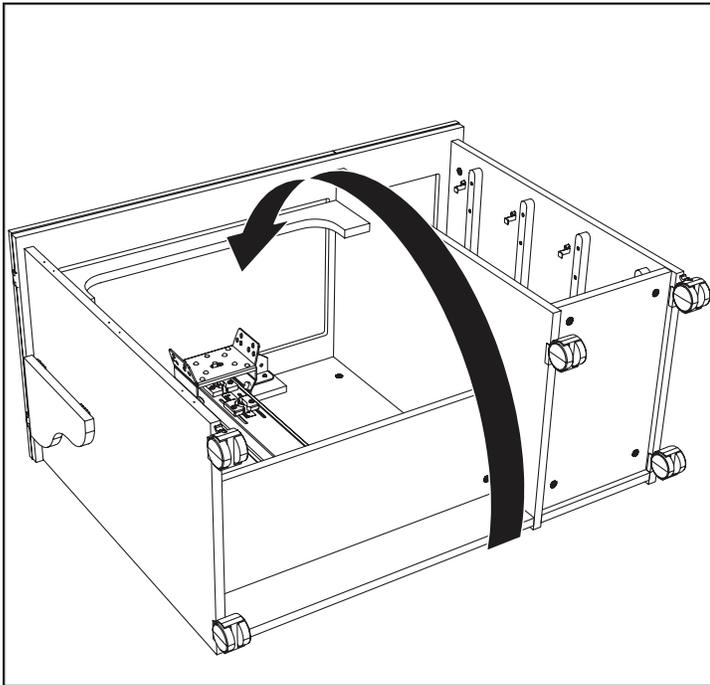

FIG. 13A
Step 13. Once Top Assembly (A, B, C) is on securely, with 2 people CAREFULLY flip the cabinet on its back, as shown in FIG. 13A.